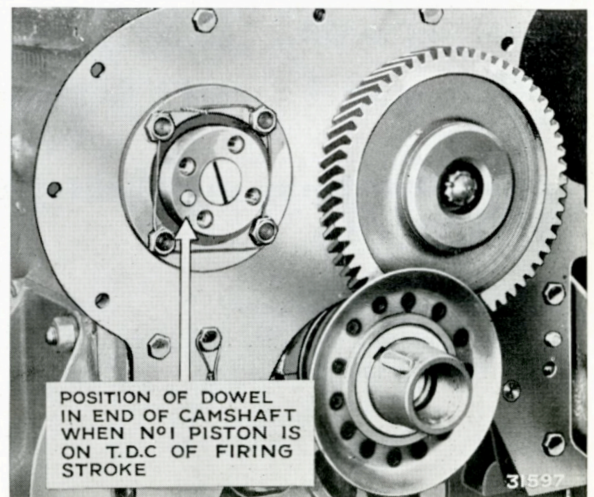

FIG. 32. GEAR LOCATING DOWEL IN CAMSHAFT END
8. Remove the four setscrews fixing the camshaft thrust washer, and withdraw the camshaft, Fig. 32.